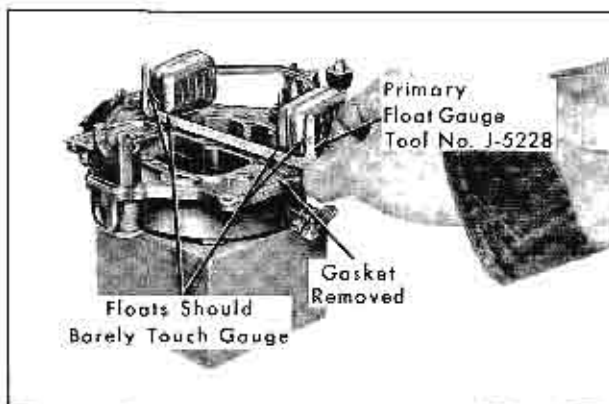

Fig. 12-27 Float Level Adjustment
7. Place Primary Float Level Gauge, Tool No. J-5457, in position as shown in Fig. 12-27.